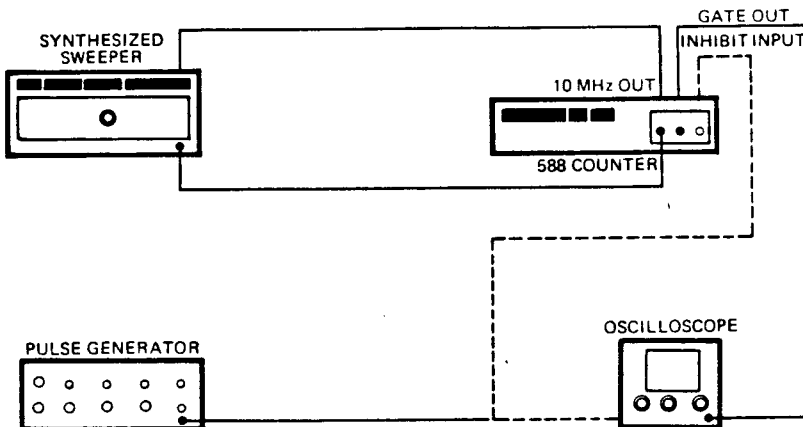

Figure 4-15. Band 1 Gate Error Test Setup
1. Connect equipment as shown in Figure 4-15.